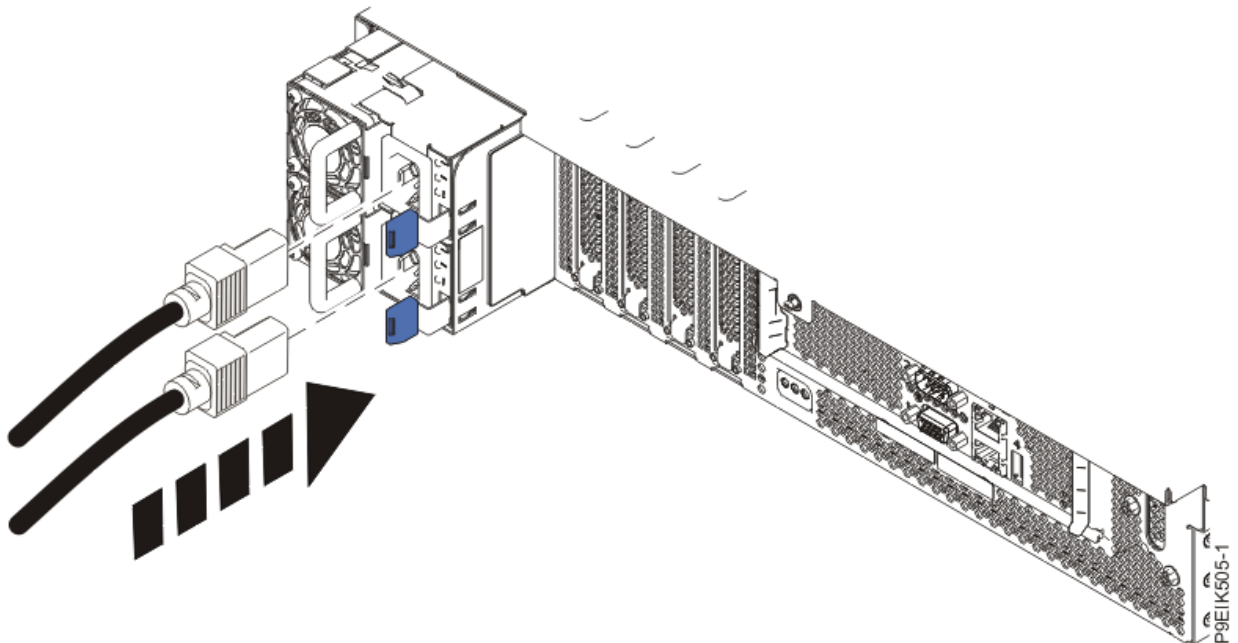

Figure 20. Connecting the power cords to the system
2. Using your labels, reconnect the power cords to the system unit as shown in Figure 20 on page 34.